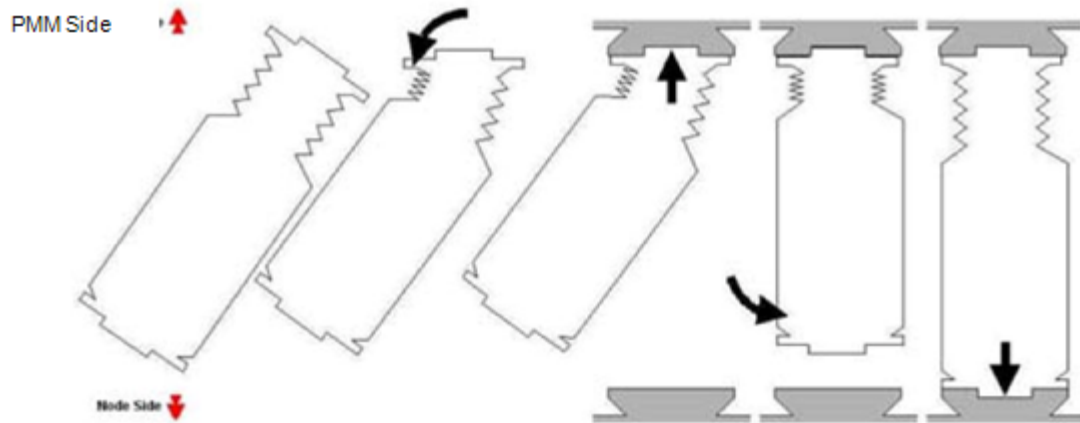

Figure 7. Recommended Steps for IMV Jumper Installation.
- 8.3 Without IMV Jumper O-Rings (two), install (A4) IMV Jumper by using handling aid to compress jumper and sliding bellows end of jumper in first. Orient flat side of jumper toward the CBM rings. Refer to Figures 7, 8, and 9.